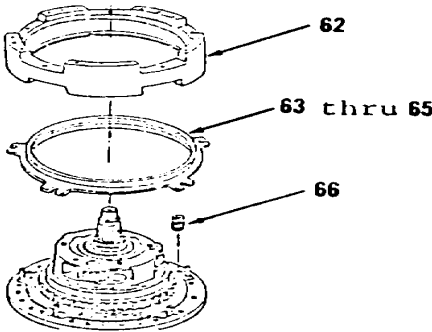

Figure 14-56.
- 24. Install ten springs (66), items 65 thru 63 as an assembly and housing (62, Figure 14-56).